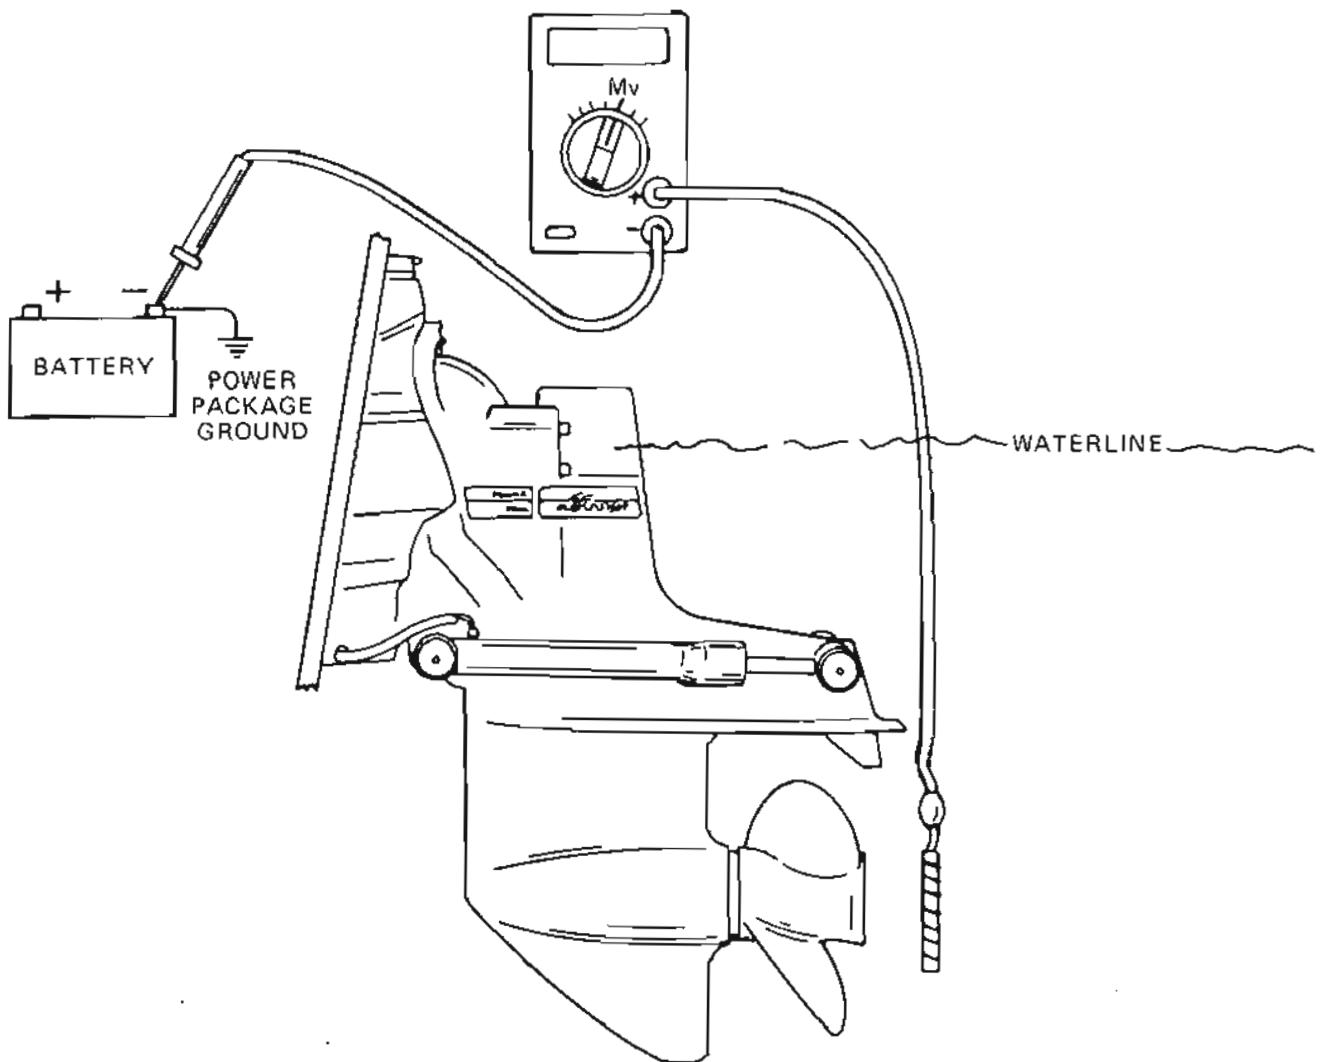

Figure 11. Reference Electrode Tester Positioned Properly
1. Immerse Electrode Tester in the water within 6" (15cm) of the aft end of the drive unit. (Figure 11)